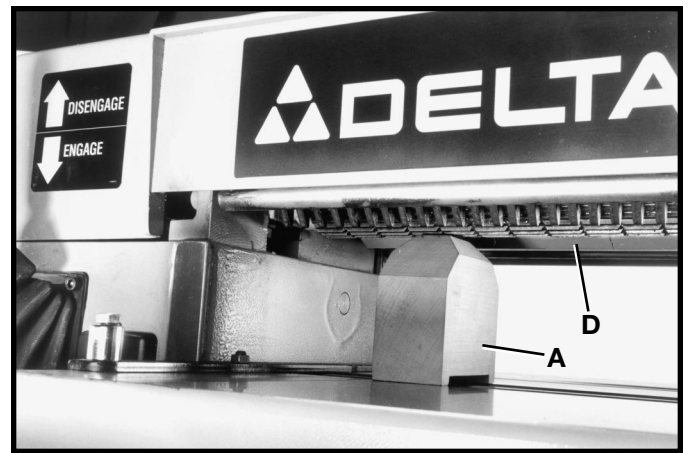

Fig. 47
4. Place gage block (A) Fig. 47, under infeed roll (D). The bottom of roller (D) should just touch gage block (A).